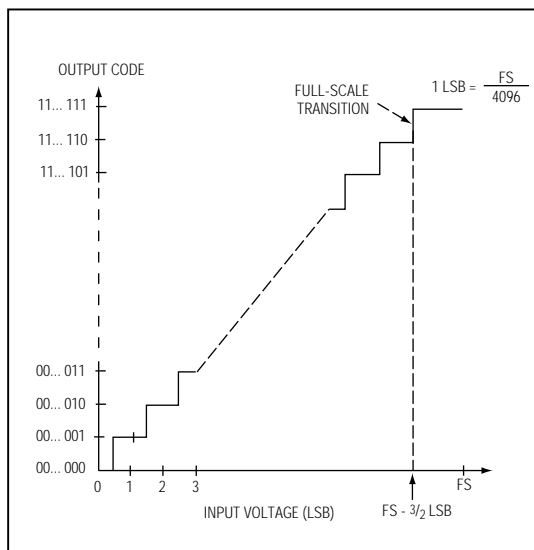

Figure 10. Unipolar Transfer Function
Output data coding for the MAX197 is binary in unipolar mode with $1\text{LSB} = (\text{FS} / 4096)$ and two's-complement binary in bipolar mode with $1\text{LSB} = ((2 \times |\text{FS}|) / 4096)$. Code transitions occur halfway between successive-integer LSB values. Figures 10 and 11 show the input/output (I/O) transfer functions for unipolar and bipolar operations, respectively. For full-scale (FS) values, refer to Table 1.